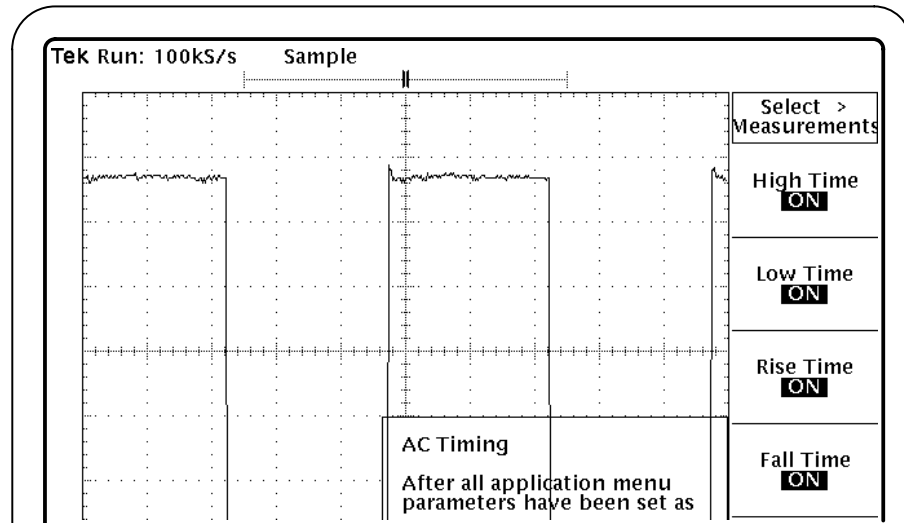

Figure 30: All AC Timing measurements selected
9. Press Setup AC Timing (main) → Select Measurements (side), and select “ON” for each measurement. See Figure 30.